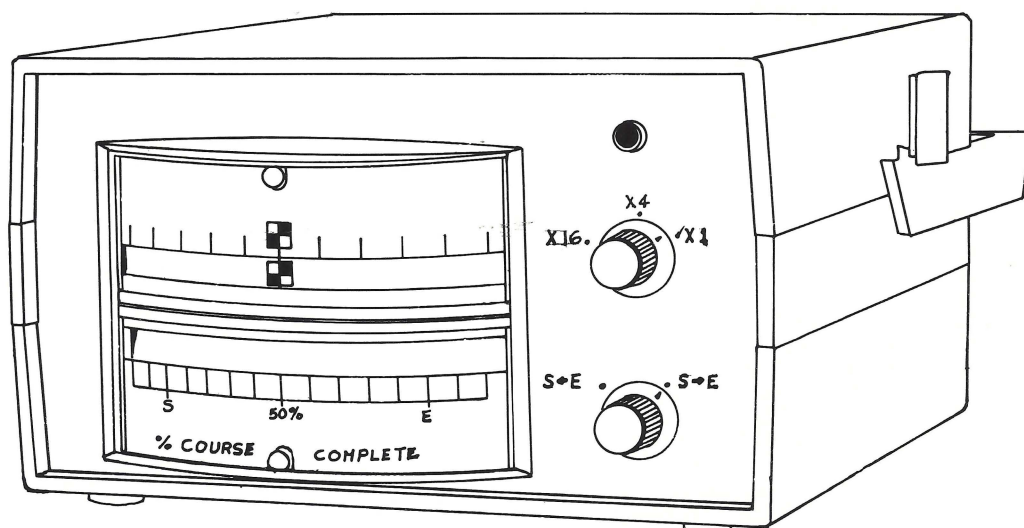

Fig. 2 Left/Right Track Indicator
- v) *Track Indicator:* This is a small package easily mounted in front of the helmsman which shows distance off line and percent of distance travelled along a line by means of bar scales. The zero of the lower scale defines the start of the line, and 50% shows that one-half of the line has been covered (Figure 2). The steering meter has 5 divisions each side of centre and can be set for fine or coarse steering where each division can equal 5, 20 or 80 units (normally metres). When getting on line the coarse scale was selected so that the unit would respond as soon as the vessel came within $5 \times 80 = 400$ metres of the line and, when on line, the fine scale is used for precise steering. Once the crew became used to the steering indicator, the position output along lines varied only 1 to 3 metres, with numerous fixes computed as being exactly on line.